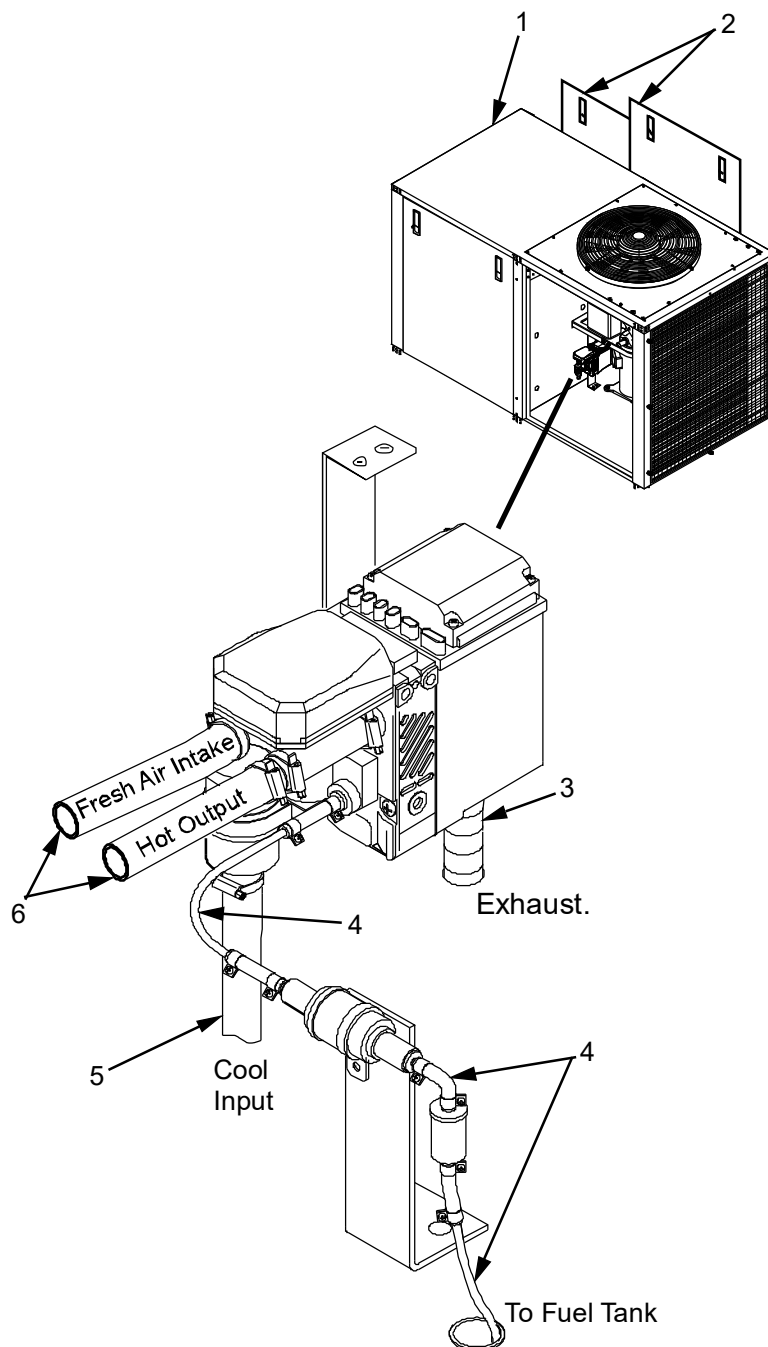

Figure 3. Auxiliary Heater Hose Replace.
1. Verify that ECU (Figure 3, Item 1) has been shut down in accordance with ECU Shut Down Procedure (WP 0005).
2. Unlatch and remove front and rear access panels (Figure 3, Item 2) and set aside. Identify hose to be replaced, air (Figure 3, Item 6), fuel (Figure 3, Item 4), coolant (Figure 3, Item 5) or exhaust (Figure 3, Item 3).
9. Install and secure access panels (Figure 3, Item 2).